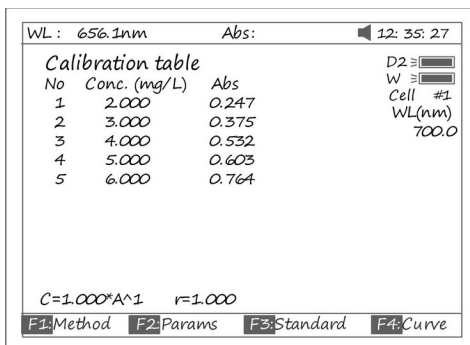

Fig 33
3.3.3 Pull the first sample cuvette of known concentration into the light path, Press the key [START] to get values of standard curve one by one (Fig 33).
In Fig 33 press [Load] and then press [ $\lambda$ ] or [ $\nu$ ] to select the file with type **\*\*\*.fit**. At last press [ENTER] TO confirm.